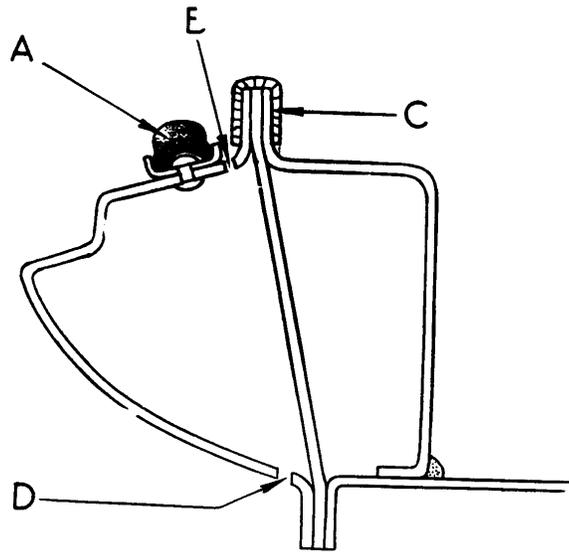

FIG. 2.
10. A "P" section rubber, part number 651842, as now fitted to the "A" post and screen pillar, allowing each coat to dry before applying a further coat. Brush sealer be fitted to any car not so equipped by attaching with a suitable adhesive. See Fig. 2 "E" for correct positioning of rubber to screen pillar and "A" post.